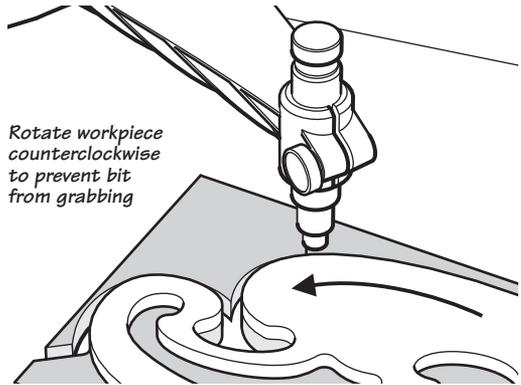

Figure 12: Following external template, rotate workpiece counterclockwise.
9. *External Cut:* Once you have established your depth of cut, follow the outline of your template, turning the workpiece in a counterclockwise direction (Figure 12). This ensures that the workpiece is moving against the direction of motion of the cutting edge of the bit, preventing the bit from grabbing the workpiece.